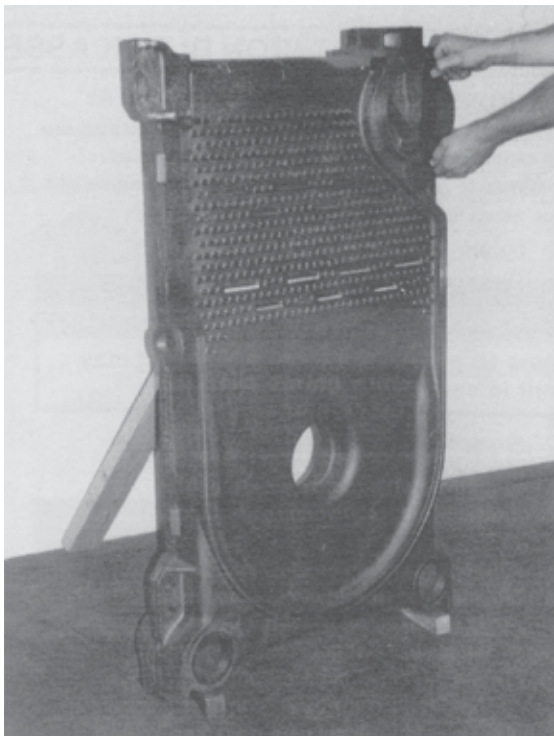

Figure 6: Setting of Nipples
- g. A special nipple setting gauge is provided for the nipples. Gauge nipple at 90° angles to insure that it is driven to the proper depth into the nipple opening (nipple port). Cut-out in gauge must rest on nipple, with legs of gauge touching finished face of section, when nipple is properly driven. See Figure 6.